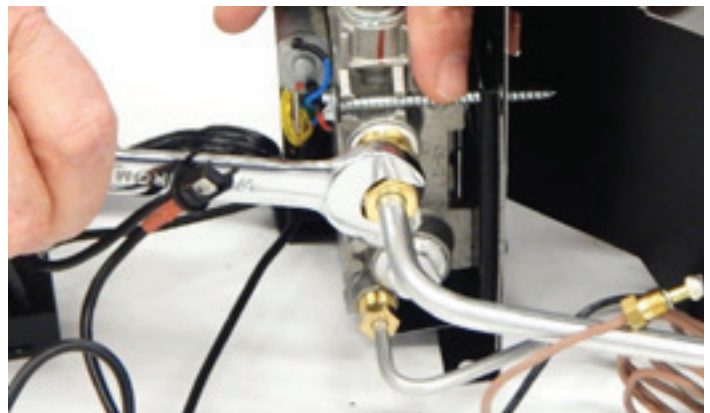

Figure 10
11. Disconnect valve to burner gas line from the valve with 9/16" wrench. **See Figure 10.**